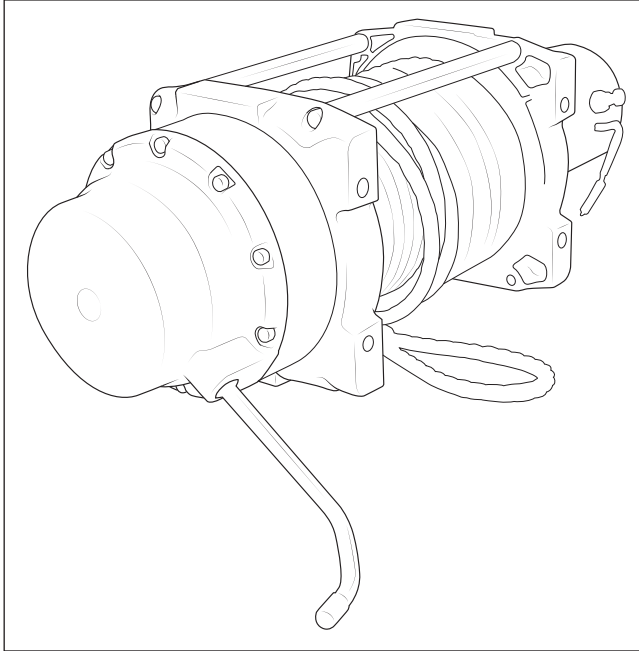

Figure 5
8. Place the winch upside down. This will be the new orientation in the bumper (fig. 5).